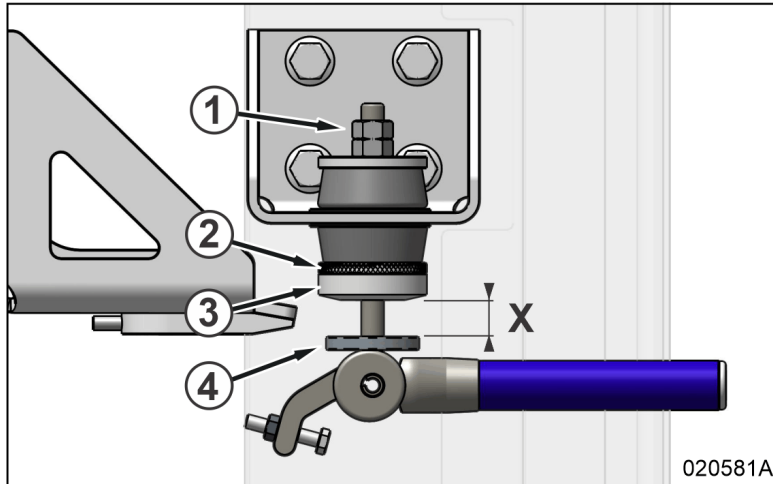

Figure 14: Locking device set-up
5.7	<p>Connect the coolant hoses. The connections have two clamps side by side with the screw housings separated from at least 90° (Figure 14 shows an example). Reconnect the bleeding line and ground cable to the radiator.</p> <p>Tightening torques:</p> <ul style="list-style-type: none"> • Coolant hose clamps: $7 \pm 0,5$ Nm (5 ± 0.4 ft.lb). • Bleeding line hose clamp: $5 \pm 0,5$ Nm (4 ± 0.4 ft.lb). • Grounding screw: $25 + 5$ Nm (18 ± 4 ft.lb). <div style="text-align: center;">  </div> <p style="text-align: right;">Figure 13: Proper hose clamp installation</p>